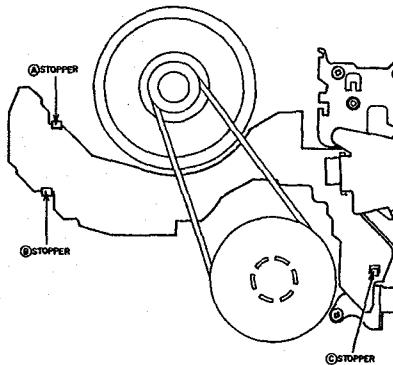

Fig. 3-6
- 3) Release the ④, ⑤ and ⑥ stoppers as shown in Fig. 3-6. Then remove the SENSOR PCB.